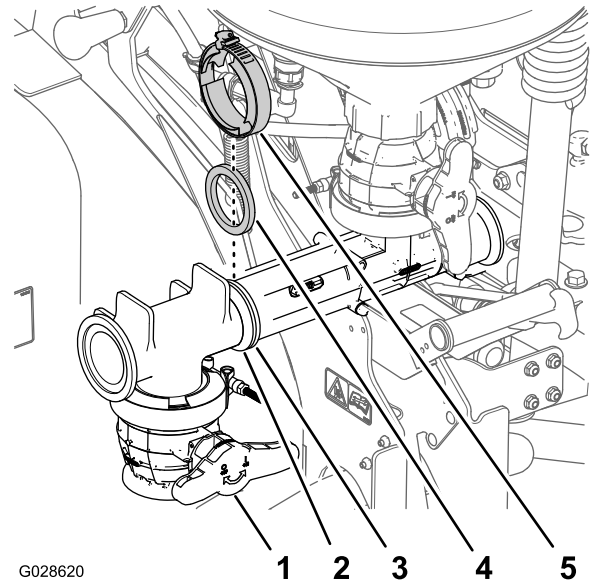

Figure 14
2. Secure the T-fitting the eductor with a gasket and flange clamp (Figure 14).
1. Align the flange of the upper T-fitting to the forward flange of the eductor (Figure 14).